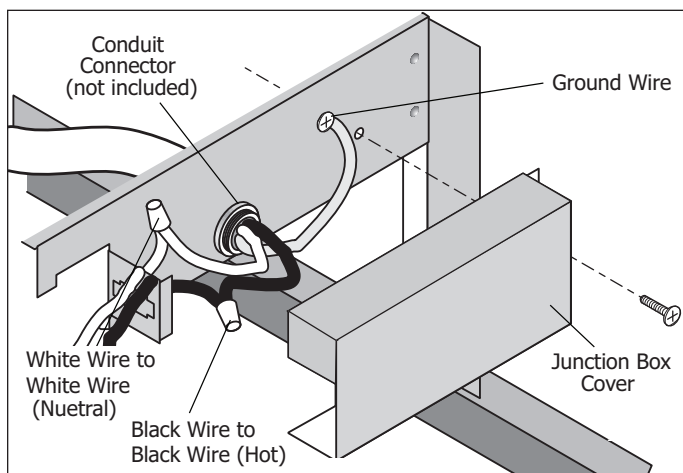

Figure 2-14.
3. Inside junction box, attach ground wire under head of grounding screw and tighten. (See Figure 2-14).
5. Replace junction box cover. (See Figure 2-14).